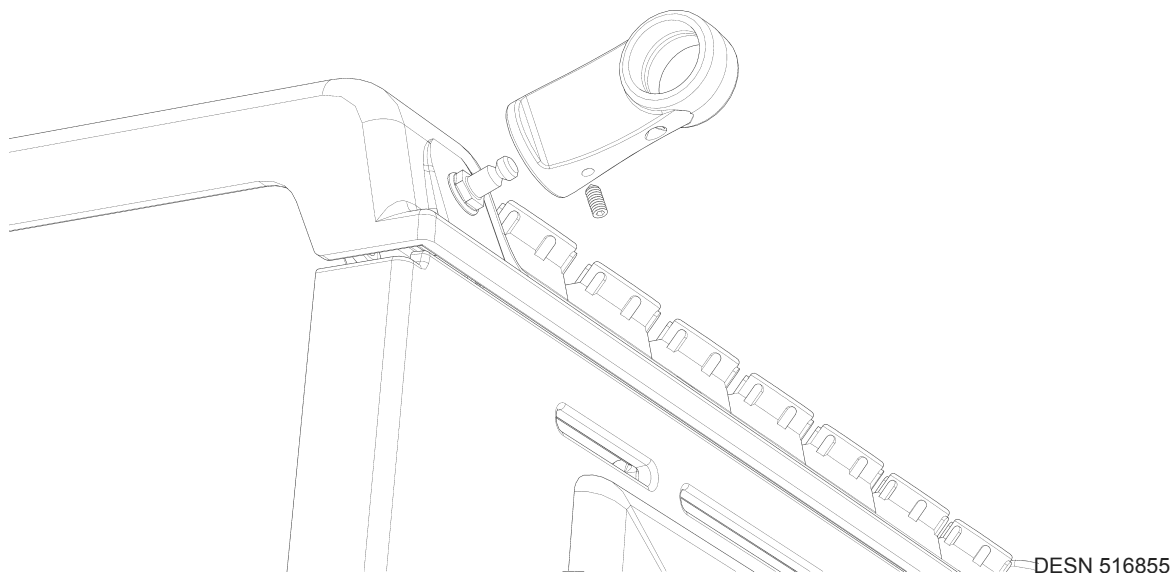

Fig. 10.4
9. Fit the Module handrail bracket over the fixing stud located on the top plate. Lock into position by tightening the grub screw nearest the appliance (**Fig. 10.4**).